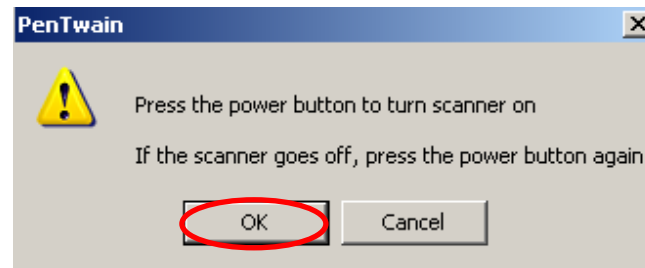

Fig 4
5. You will be prompted to turn the DocuPen ON. Press the **Power On** button on your DocuPen and Click **OK** in the **PenTwain** Dialog window (Fig. 4).